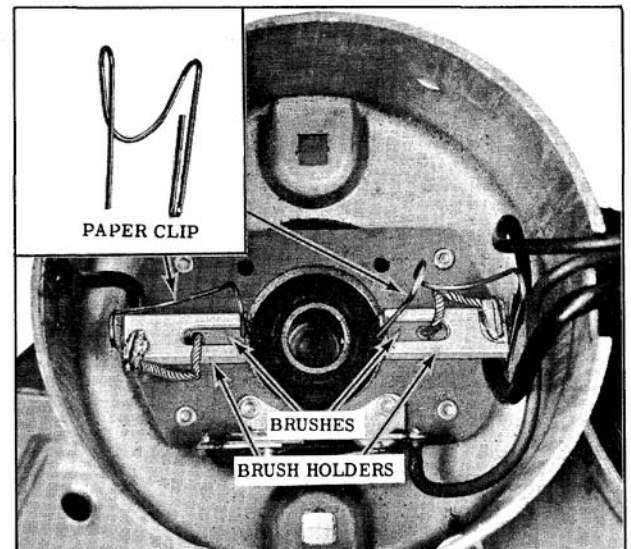

Fig. 13-136 Retaining Brushes
2. Install brush springs and brushes in holder. Retain brushes in holders with a brush retainer as shown in Fig. 13-136.